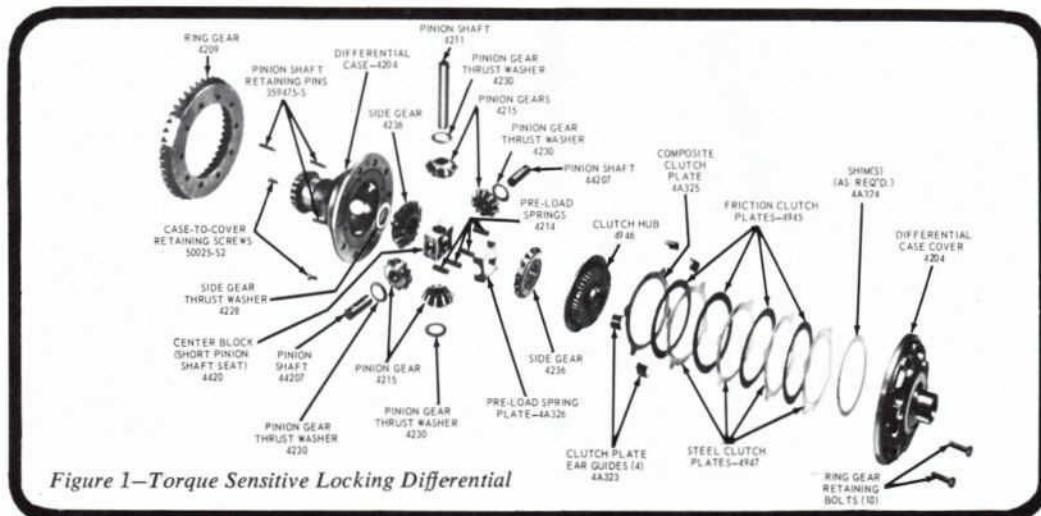

Figure 1—Torque Sensitive Locking Differential
The new torque sensitive locking differential (Fig. 1) employs a multiple disc clutch to control differential action. Shim(s), which control side gear mounting distance, four steel, four friction and one composite plate (steel on one side and friction material on the other) stacked on a clutch hub, and four ear guides are housed in the differential cover. Located in the differential case between the side gears is a one-piece pre-load plate and block (four-pinion) and four calibrated pre-load springs, which apply an initial force to the clutch pack. Additional clutch capacity is derived from the side gear thrust loads. The four friction plates are splined to the clutch hub which in turn is splined to the left axle shaft, and the eared steel plates are dogged to the case; thus, the clutch is always engaged.
- Install the composite plate (friction material on one side and steel on the opposite) on the back side of the clutch hub with the friction material against the hub; next, install a friction plate, then steel, friction, steel, friction, steel, friction, and lastly a steel plate (Figures 1 and 7). When new clutch plates are used, soak the plates in Ford Hypoid Lubricant (Ford Part No. C6AZ-19580-C), or equivalent lubricant, for approximately 30 minutes before installation.